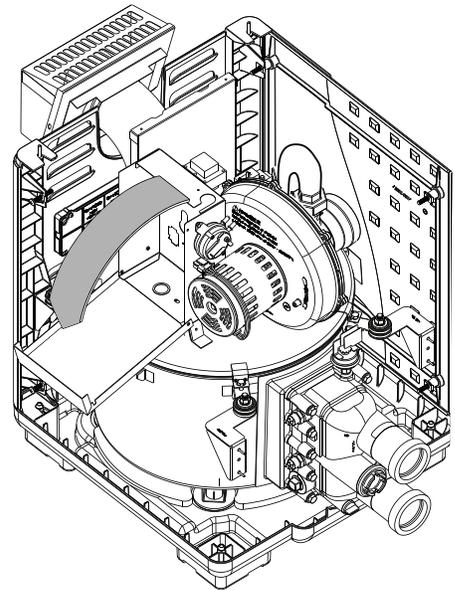

Figure 28.
3. Open control box cover (see Figure 28).
- Connect wires between the Fireman’s Switch terminals on the heater and the relay. Connect wires from the controller or timer to the Fireman’s Switch. Controller, timer or relay should be sized to handle 24VAC at 0.5 Amp (because it will be completing the 24VAC control board circuit on the heater as shown in Figure 28). **DO NOT** apply line voltage to the Fireman’s Switch terminals. Use 18 gauge wire with a minimum 3/64” (1.2mm) thick insulation rated for a temperature rise of at least 105°C.